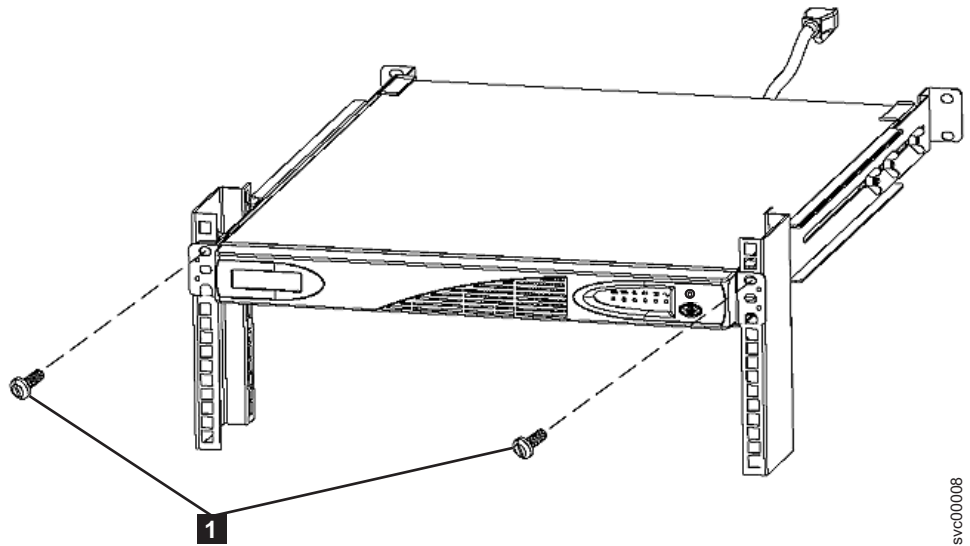

Figure 12. Mounting screws for the 2145 UPS-1U
2. At the front of the 2145 UPS-1U, install the two mounting screws (M6x10) **1** as shown in Figure 12 on page 19.